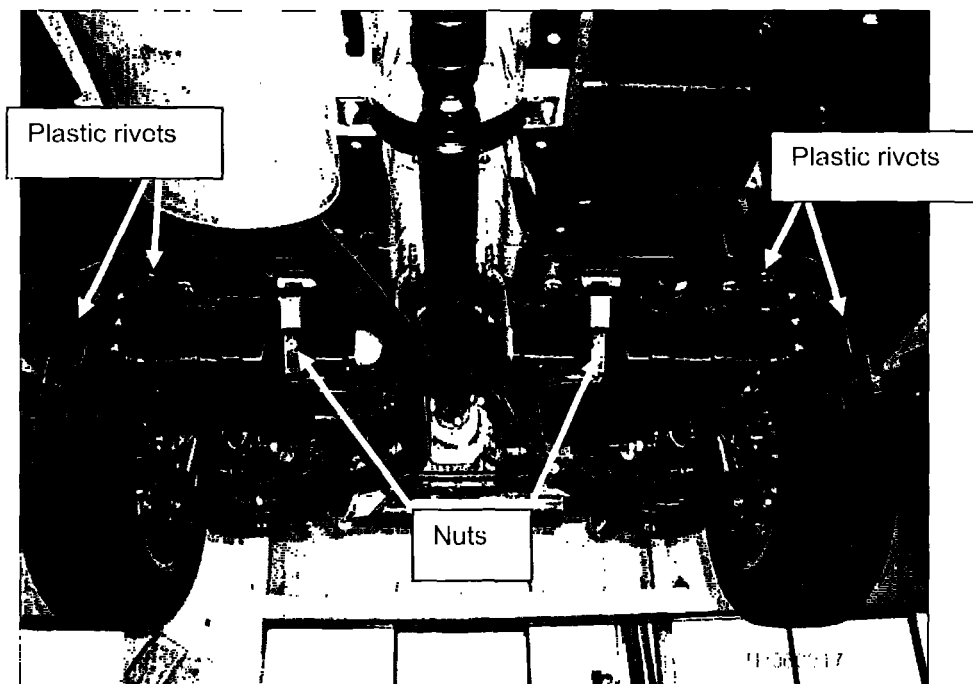

Figure 12
- Loosely install the nuts (see Figure 12). This will allow movement of the shields for inserting the black plastic rivets (next step).